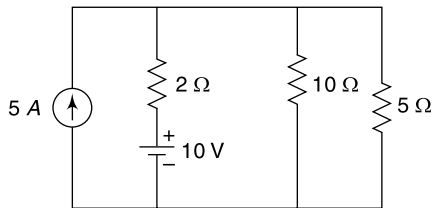

Fig. 4.95 Circuit of Ex. 4.68
4.68 Find the current in the 5Ω resistor (using Thevenin's theorem) in Fig. 4.95.
Let us first remove the 5Ω resistor. The circuit configuration is shown in Fig. 4.95(a).